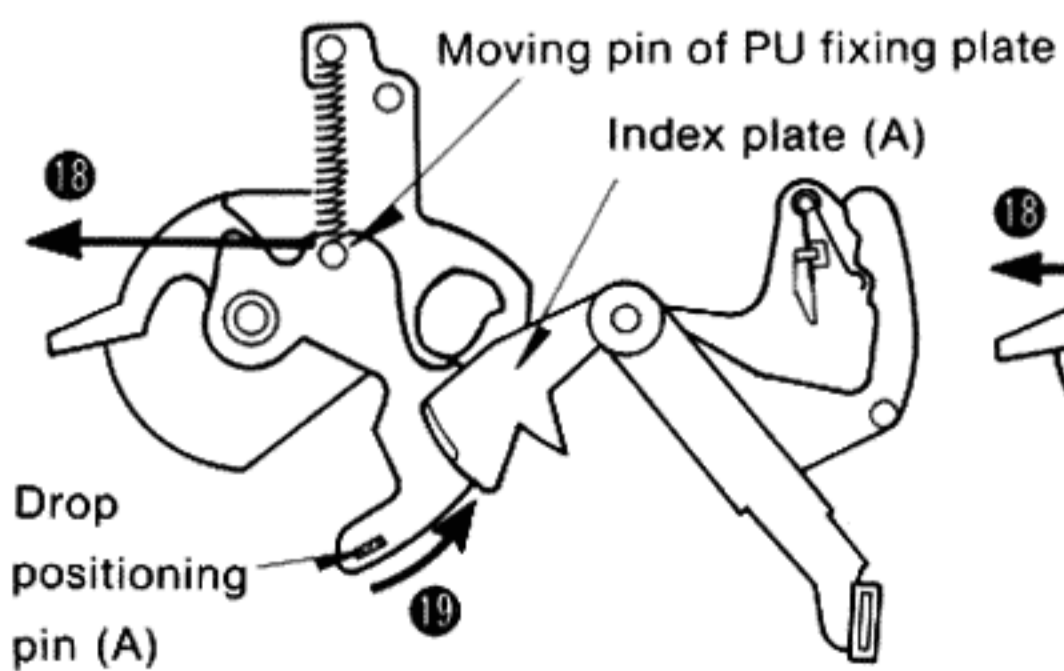

Fig. 6
| 8. | Tonearm drop position | <ul style="list-style-type: none"> ●PU fixing plate moving pin turns the PU fixing plate, pushing it in the direction of arrow ●18. | | Fig. 6 |
| | | <ul style="list-style-type: none"> ★ In case of 30 cm record The PU fixing plate rotates until drop positioning pin (A) contacts index plate (A). | 269° ~ 299° | Fig. 6 |